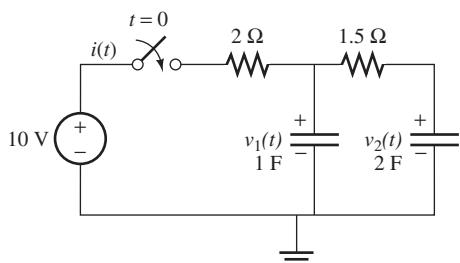

FIGURE P5.47 Circuit for Problem 5.47.
- 5.47 (H) Consider the circuit shown in Figure P5.47. The switch closes at $t = 0$, $v_C(0-) = 0 \text{ V}$: